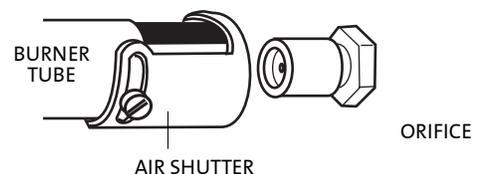

Figure 22.
3. Use a phillips head screwdriver loosen to the screw at the air shutter and adjust as necessary for the appropriate fuel and desired flame picture. Retighten the screw after adjustment. See fig. 22.
2. PILOT FLAME: You can monitor the pilot flame through the view port in the lower right front of the log set. See fig. 22. The pilot flame should be steady - not lifting or floating. The flame should be blue in color around the pilot hood, with traces of yellow toward the outer edges.